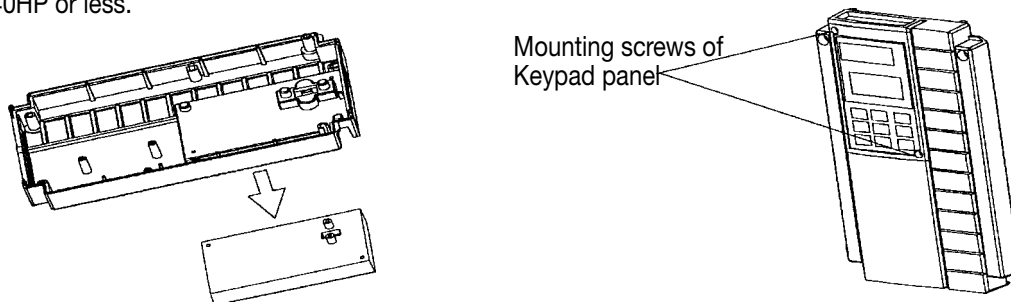

Fig.1-3-3 Removing the Keypad Panel (for drives of 30 HP or less)
After removing the cover as explained in (1), loosen the keypad panel mounting screws and remove as shown in Figure 1.3.3 for drives 40HP or less.